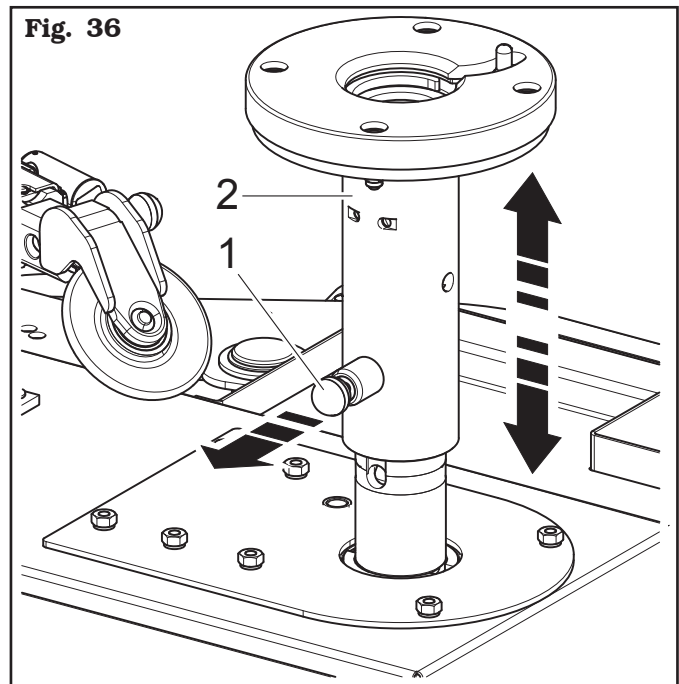

Fig. 36
The chuck with central locking has 2 different height mode. A “quick release” system allows to remove the chuck mobile part and to dowel the support plate at the desired height. Adjust the sliding shaft by pulling the locking knob (**Fig. 36 ref. 1**) and by lifting/lowering the wheel support (**Fig. 36 ref. 2**). Now it's possible to place the tyre in the right way with the working tools.